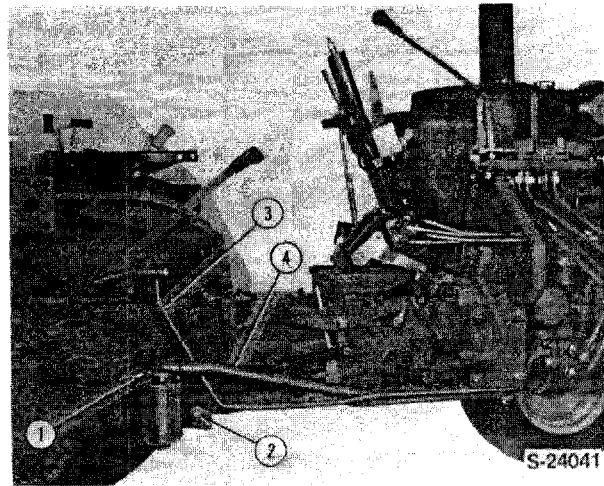

Figure 38
18. Remove the hydraulic filter and mounting flange as an assembly, Figure 38.
19. Remove the suction tube (4), Figure 38.
20. Remove the hydraulic system pressure tube (3) from the lift cover.
22. Remove the hydraulic system oil return tube (2), Figure 38.